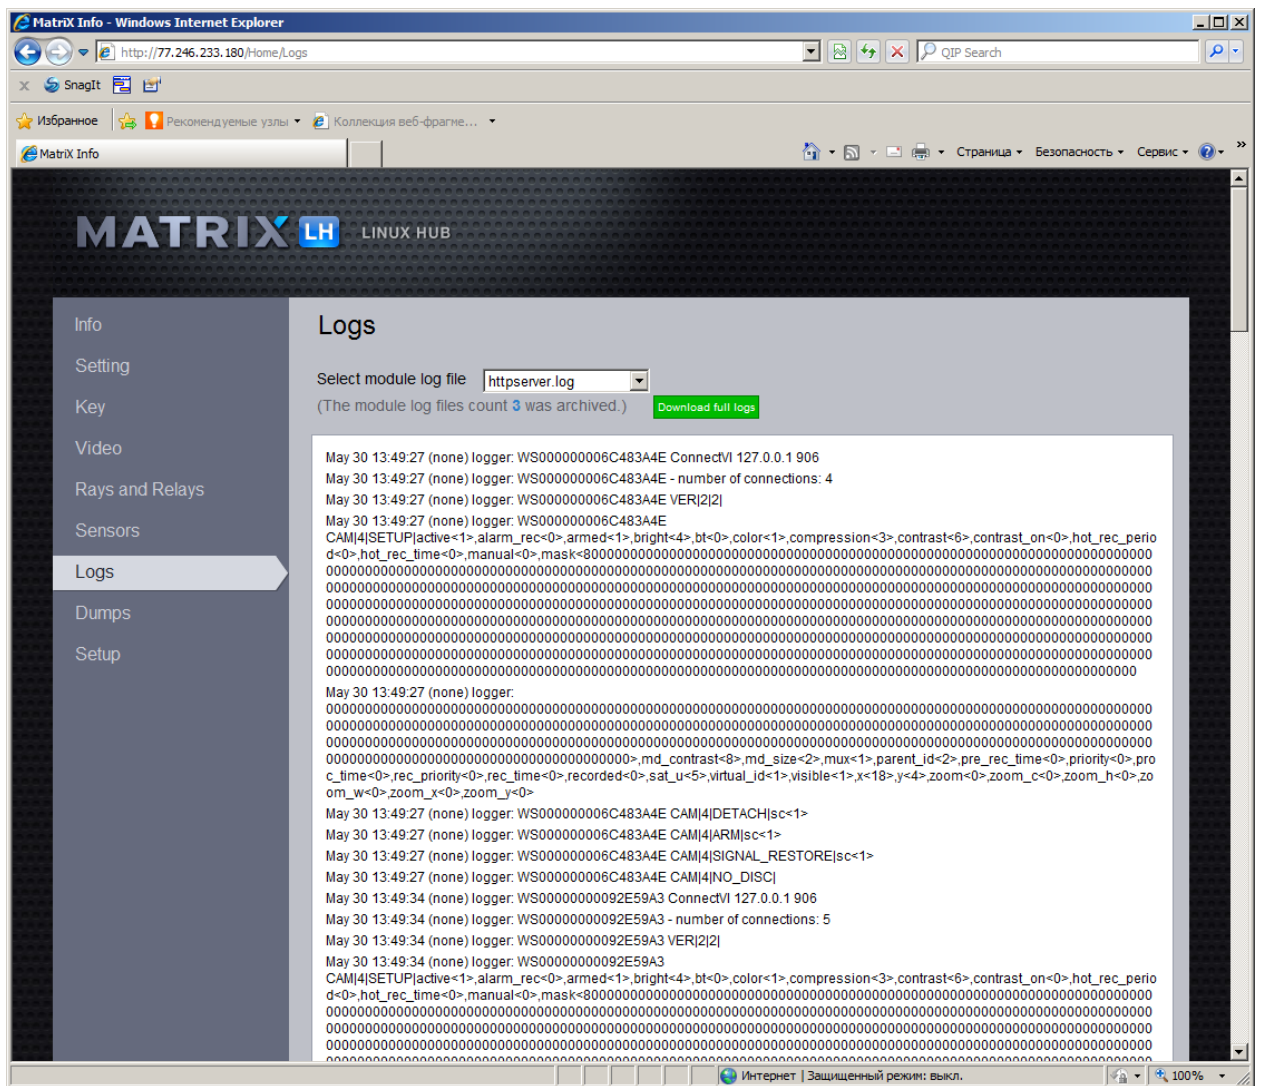

Figure 7.3-10 Viewing the LS (LH) logs
Logs of the LS (LH) are viewed in the **Logs** tab (Figure 7.3-10).